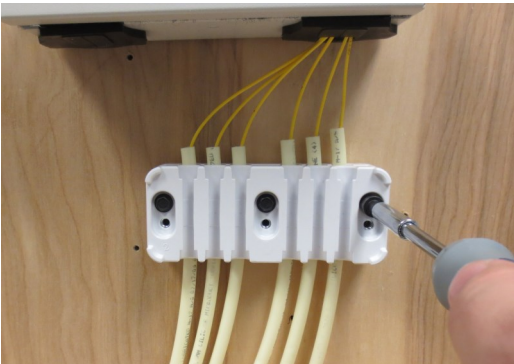

Fig. 8
- Secure the manifold plate by using the supplied manifold bolts and an **8mm or 5/16" nut driver**. Bolts should be inserted into the **top** holes on the manifold plate (Fig. 8).